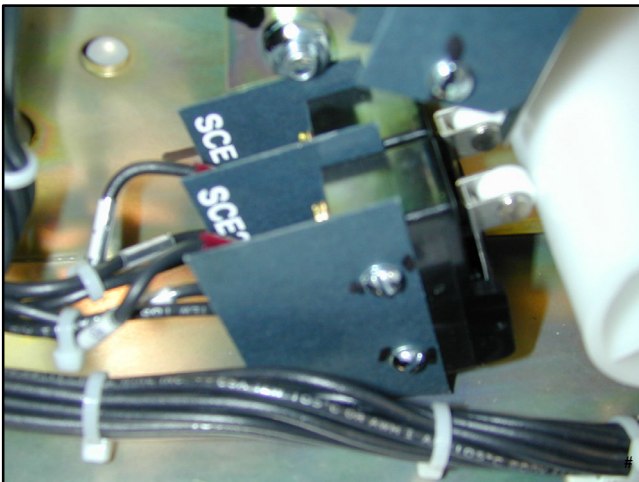

Figure 7-58 Microswitch Holding Screws
7. Remove the microswitch holding screws. See Figure 7-58.